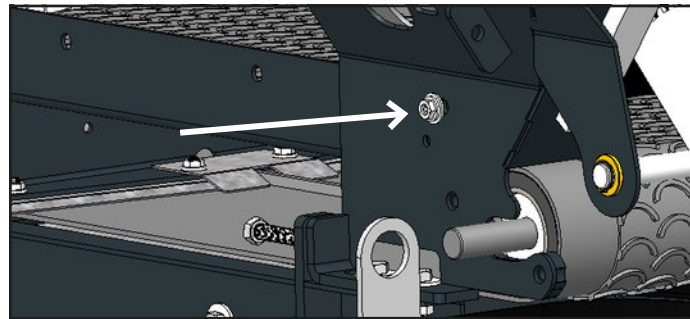

Figure 13.4
- Remove the bolts from the plate to the feed mechanism support. (Fig 13.4)